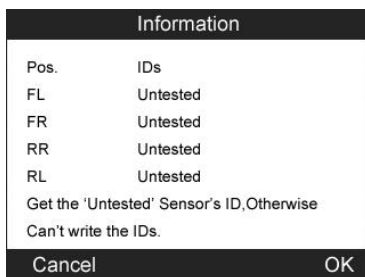

Figure 4.25
- ☑ **NOTE:** If there are untested sensors in the vehicle, the writing ID process cannot proceed. The tool will display a warning message as below.(Figure 4.25) In this case, follow the sensor check procedure to activate all sensors in vehicle and register sensor IDs again.